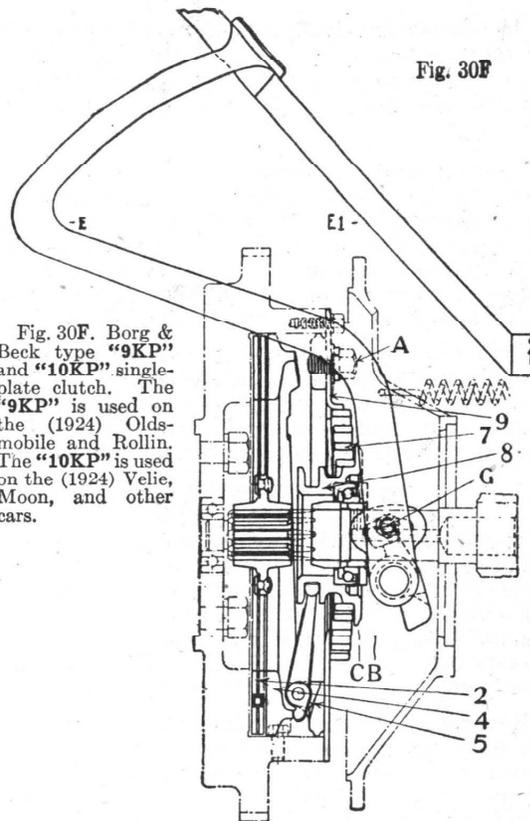

Fig. 30F
1. Loosen both adjustment bolts (A). As both bolts are screwed into the same ring (5), moving one also moves the other.
2. Throw out clutch by pushing pedal down until pad rests on toe board. (As shown in Fig. 30F, the spring should then be compressed nearly flat against the cover.) Move bolt (A) to the right, or clockwise, which tightens the clutch.
3. Let in clutch and measure distance from rear face of release collar (8) to clutch cover (9). This should be 1", and a gauge made of wire with a 1" bend at one end may be used to advantage.
4. If this space is more than 1", throw out clutch and move bolt (A) a little more to the right. If less than 1", move bolt (A) to the left. After correct setting has been obtained, tighten both bolts (A). This completes clutch adjustment.
5. The clearance (E) between the clutch pedal (when clutch is "in"; now shown "out") and under side of toe-board (E1) should now be 1" or more. If less than 1", the clutch pedal adjustment (G) should be changed, shifting the pedal down until that clearance is obtained. Now let clutch "in" by pressing the pedal down (position shown in illustration) and note distance the release collar (8) travels. It should be pushed toward the flywheel about 3/4", which is necessary for a clean release. If it does not travel that distance, shift pedal up a notch so as to allow little more travel.
Fig. 30F. Borg & Beck type "9KP" and "10KP" single-plate clutch. The "9KP" is used on the (1924) Oldsmobile and Rollin. The "10KP" is used on the (1924) Velie, Moon, and other cars.